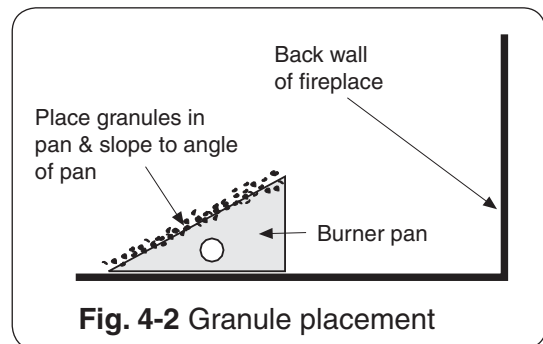

Fig. 4-2 Granule placement
1. Fill the burner pan completely with the granules* (Item 7). See Fig. 4-2. **Avoid spilling the granules on the pilot kit (if equipped).**